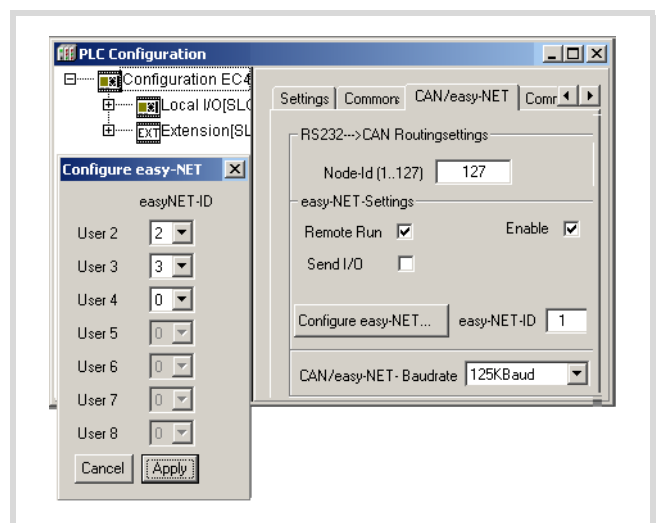

Figure 22: Entering parameters and specifying station Net-IDs
- ▶ Click the "Configure easy-NET" button and select the Net-IDs for the stations, as shown in figure 22.